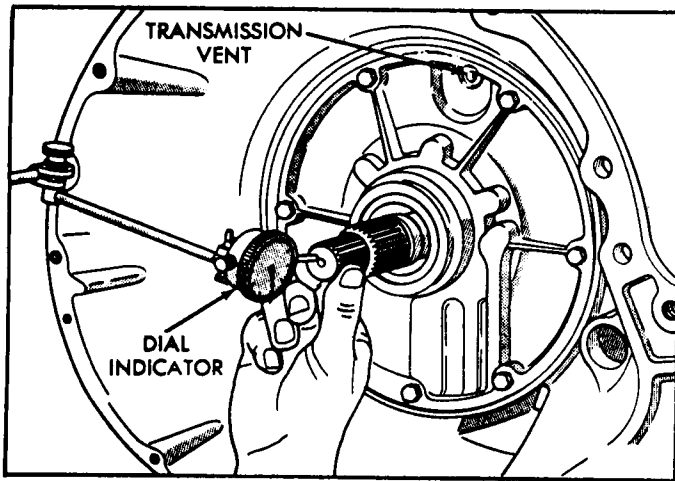

Figure 47
72. Measure and if necessary, correct input shaft end-play (See Figure 47).
74. Attach dial indicator to bell housing, as shown in Figure 47.